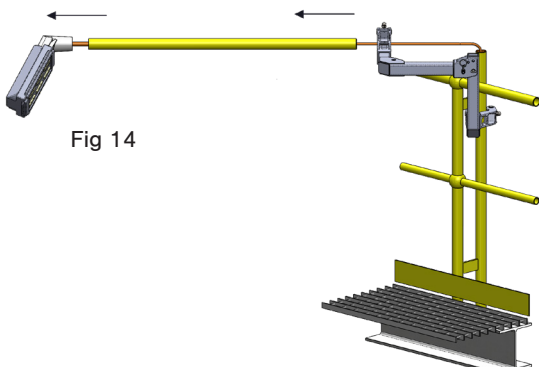

Fig 14
- One person holds the pole top and second person loosens clamp to allow pole top to be removed (Fig 14), leaving the cable protruding from the pole base.